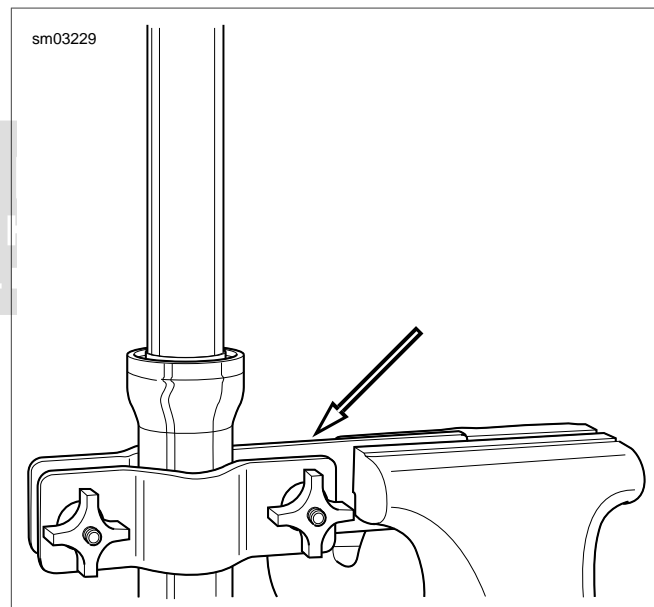

Figure 2-82. Fork Holding Tool (mounted vertically to slider)
1. See Figure 2-82. Clamp fork tube and slider assembly in FORK HOLDING TOOL (Part No. HD-41177) and mount in vise.